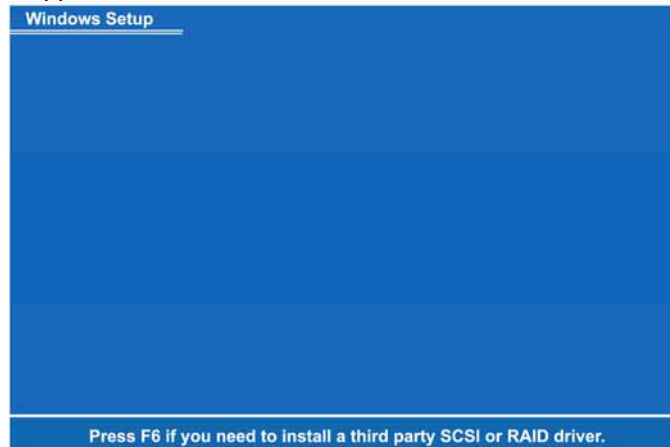

Figure 11
- (5)-1 Restart your system to boot the Windows 2000/XP Setup disk, and press F6 button as soon as you see the message "Press F6 if you need to install a 3rd party SCSI or RAID driver" (as Figure 11). After pressing the F6 button, there will be a few moments for some files being loaded before next screen appears.